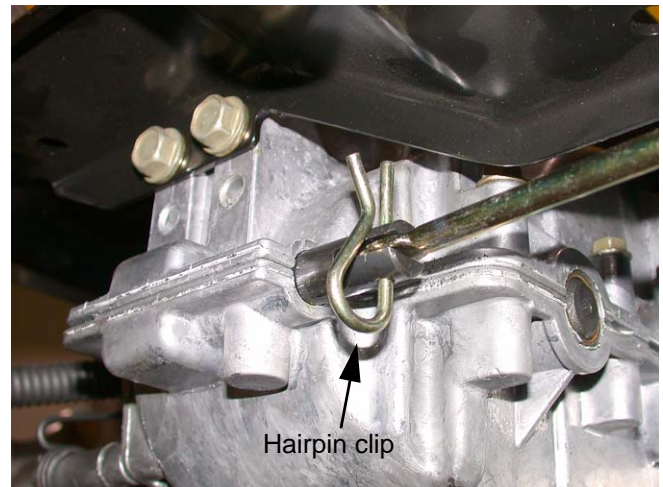

Figure 21.9
- 21.9. Remove the hairpin clip securing the transmission shift rod to the transmission. See Figure 21.9.
- 21.10. Using a 1/2" socket, remove the two hex screws securing the front of the transmission housing to the transmission support bracket. See Figure 21.9.